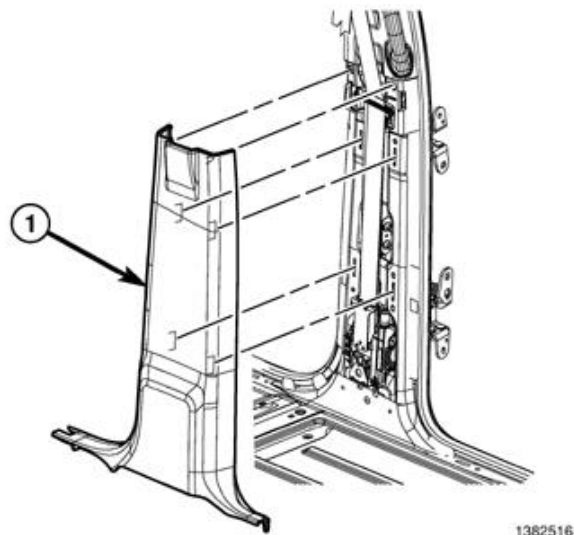

Figure 22 – B-Pillar Lower Trim Panel
7. Release the retaining clips and remove the B-pillar lower trim panel to allow for removal of the B-pillar upper trim panel (Figure 22).